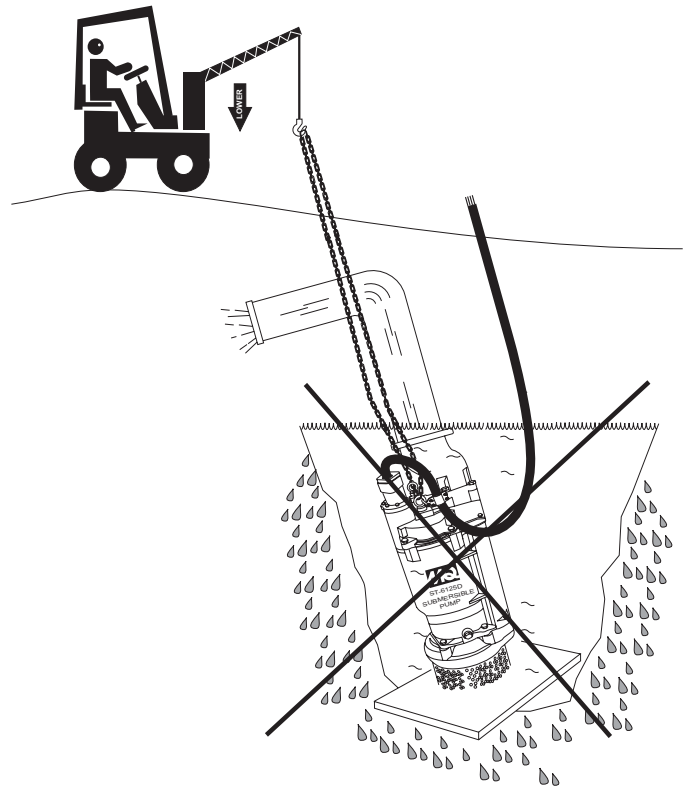

Figure 15. Incorrect Tilted Position
2. Make sure the pump is always placed in an upright position, not tilted (Figure 15). Never position the pump directly on a soft, loose bottom. Remember to attain maximum pumping capacity and prevent excessive wear, position the pump so it will not burrow itself into sand or clay.